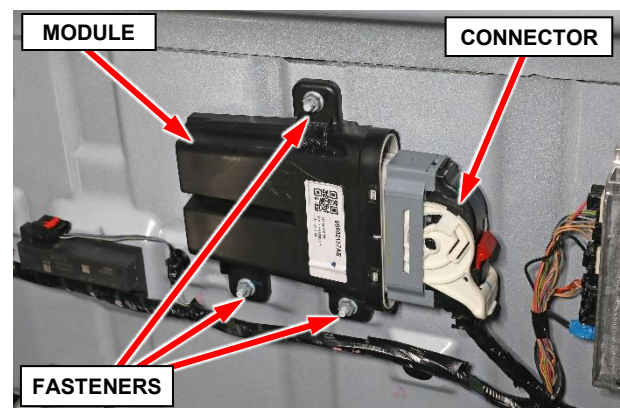

Figure 12 – Trailer Tow Module
6. Disconnect the wire harness connector from the trailer tow module (Figure 12).
7. Remove the three fastener nuts from the trailer tow module (Figure 12).
8. Remove the trailer tow module from the vehicle (Figure 12).
11. Install the **NEW** trailer tow module to the vehicle and tighten the three fastener nuts securely (Figure 12).
12. Connect the wire harness connector to the trailer tow module (Figure 12).